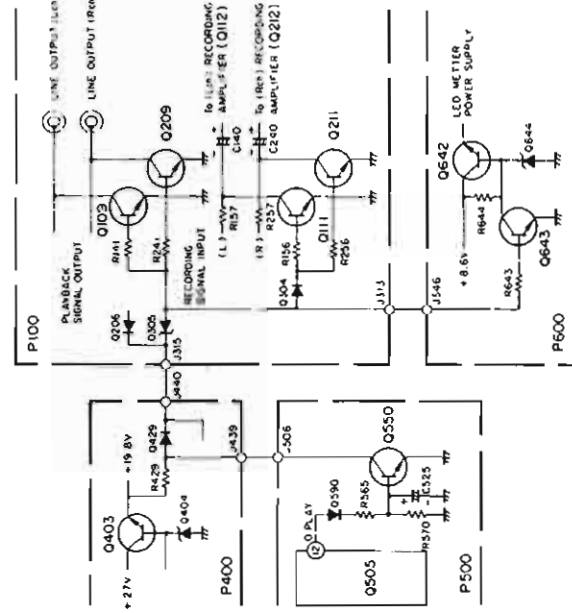

Fig. 4-1. Muting control circuit
- Transistor Q550 is turned ON. This causes the following control sequence to put the amplifier into the PLAY mode (see Fig. 4-1).